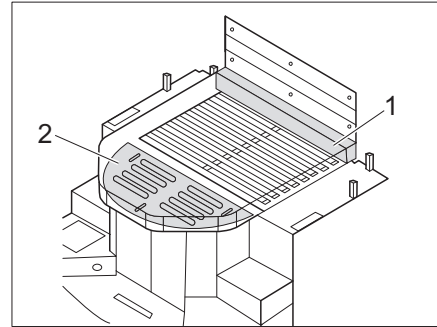

Fig. 174 Bed with mattress extension (with additional mattress and pull-out base)
- Place additional mattress (Fig. 174,1) on the front side of the queen bed.
- Pull out the pull-out base (Fig. 174,2).